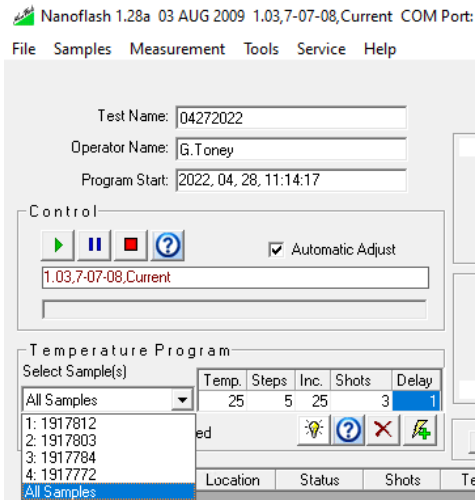

Figure 19. Temperature program information.
- Create a temperature program (as shown in Figure 19) by entering the starting temperature (25°C), the number of steps to measure at different temperatures (5), the increase in temperature between the steps (25°C), the number of shots (at least 3), and the delay (1–3 min.).